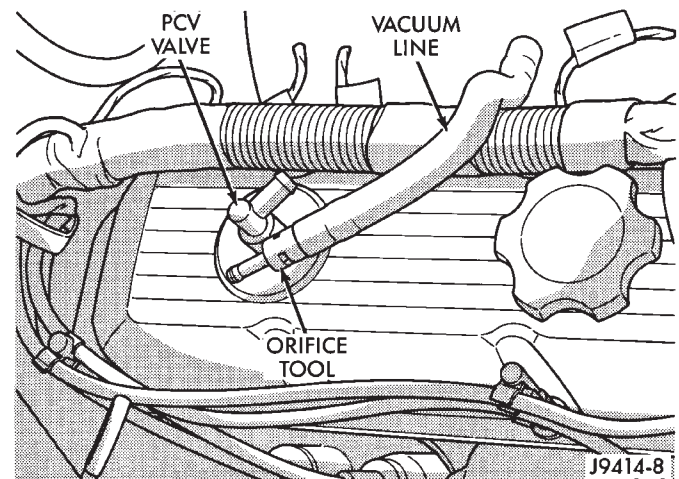

Fig. 35 Install Orifice Tool
(3) Disconnect the vacuum line at the PCV valve (Fig. 35).
(4) Install the 0.185 inch orifice tool (number 6714) into the disconnected vacuum line in place of the PCV valve (Fig. 35).